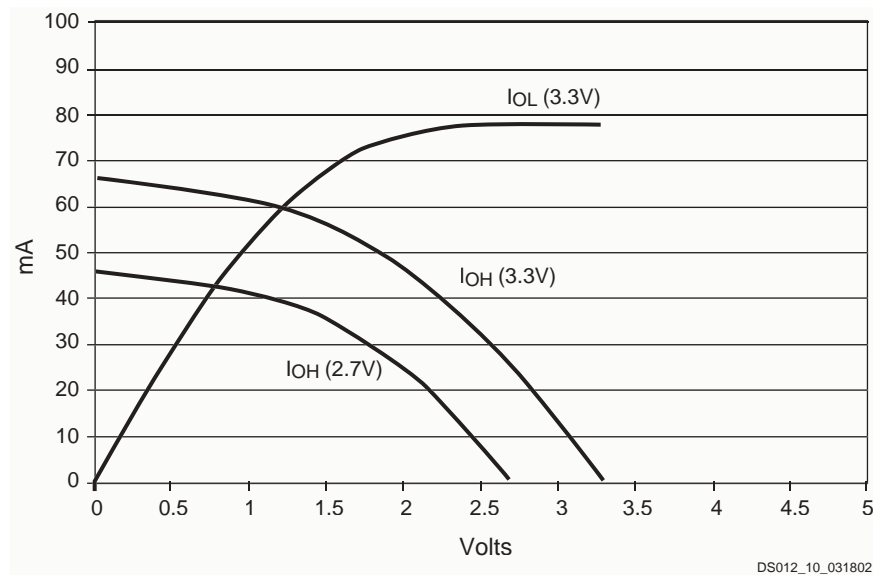

Figure 2: Typical I/V Curve for the XPLA3 Family, 25°C
2. See Figure 2 for output drive characteristics of the XPLA3 family.